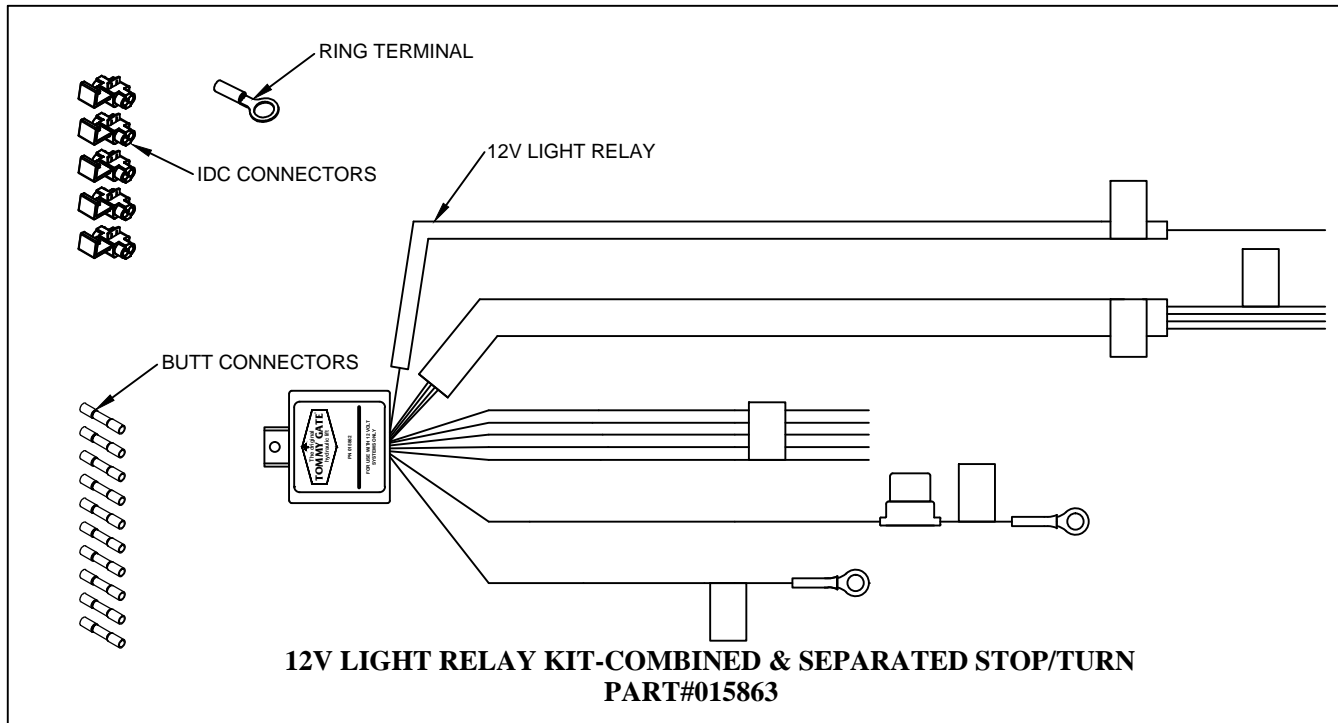

Figure 1: Part identification.
1. Verify the parts of the **12V Light Relay Kit-Combined & Separated Stop/Turn** (Table 1 and Figure 1).